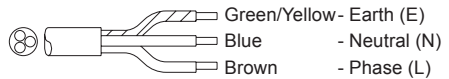

fig. 4
- (fig.4) For 220V-240V 1 Phase with plug socket.
- (fig.4) For 220V-240V 1 Phase (3 core electric cable).
The following remarks apply to figure 4:
The three core mains cable (fig. 4) has the following wiring code: